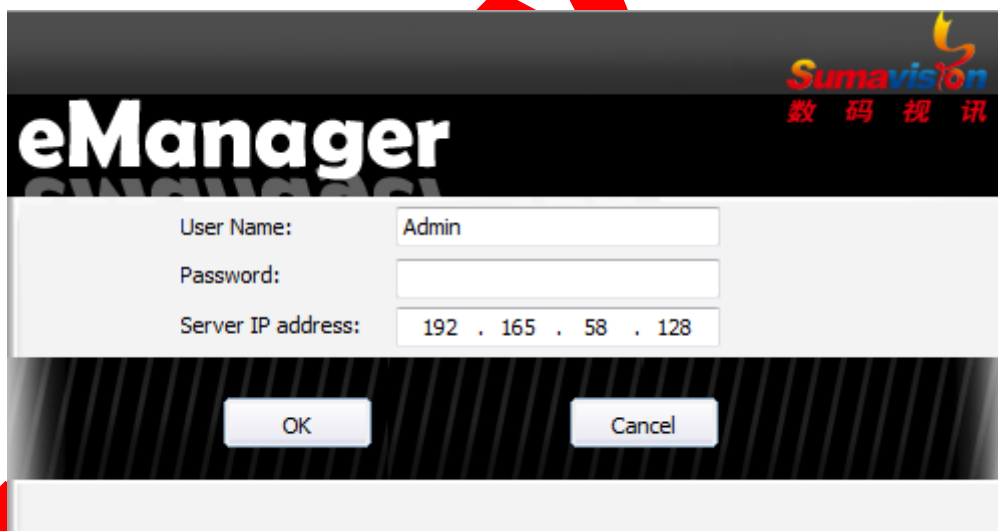

Fig. 5-15 Login Interface for SNMP Network management
**Step 2:** run  **eManager Client** under the installation directory, start SNMP network management, input the user name and password. The initial password is Administrator and the password is “sumavision”. Fill in the server and the IP address. Click “OK” to start the SNMP network management, as shown in Fig. 5-15 Login Interface for SNMP Network management.